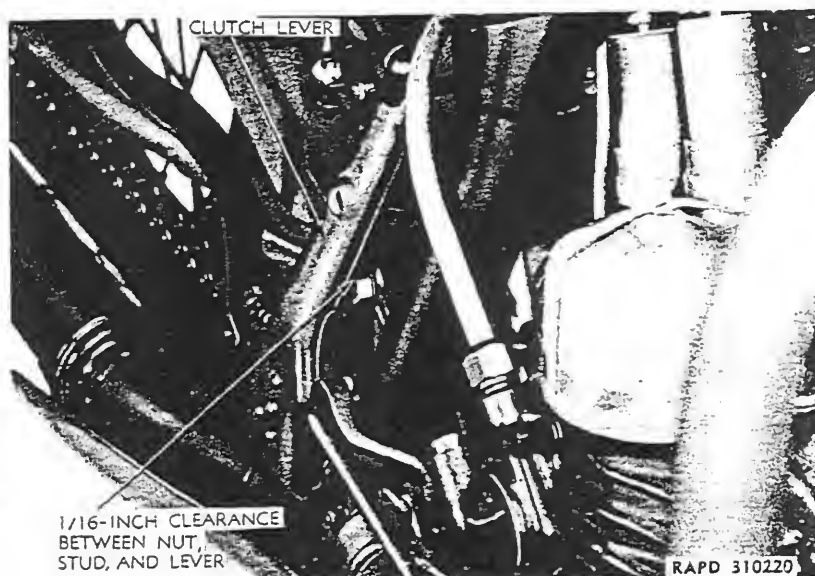

Figure 23—Clutch Lever and Stud Nut Clearance
c. Clutch Control Adjustment (figs. 23, 24, 25, and 26).
(1) **ADJUSTING CABLE LENGTH.** With clutch in fully disengaged position (foot pedal heel down) the clutch release lever must clear the countershaft sprocket cover stud and/or nut by $\frac{1}{16}$ inch. Should clutch release lever strike sprocket cover and nut, clutch push rod movement is restricted, and clutch cannot be fully disengaged. Length of control cable must be adjusted to obtain $\frac{1}{16}$ -inch clutch release lever and sprocket cover stud and/or nut clearance. To lengthen or shorten clutch control cable, cable adjustable end must be removed from foot pedal stud (figs. 23 and 24). With foot pedal in forward (toe down) position, remove cotter pin and washer retaining cable end. Release other end of cable from notch in clutch release lever by pressing release lever inward and lifting cable end out of notch. Rock the foot pedal to rear (heel down) position and work cable adjustable end off foot pedal stud. Loosen lock nut and turn cable end to right (clockwise) to shorten cable; turn to left (counter-